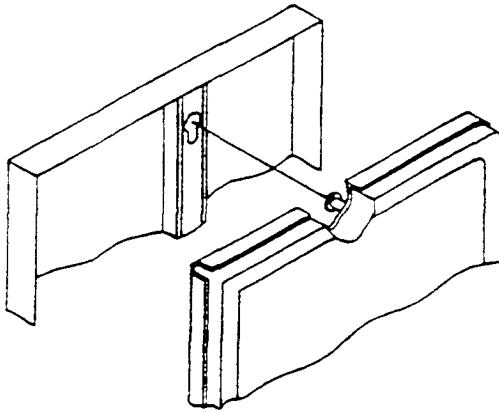

Figure 3-5. Door Gasket Assembly
- Remove the door gasket assembly (see Figure 3-5).